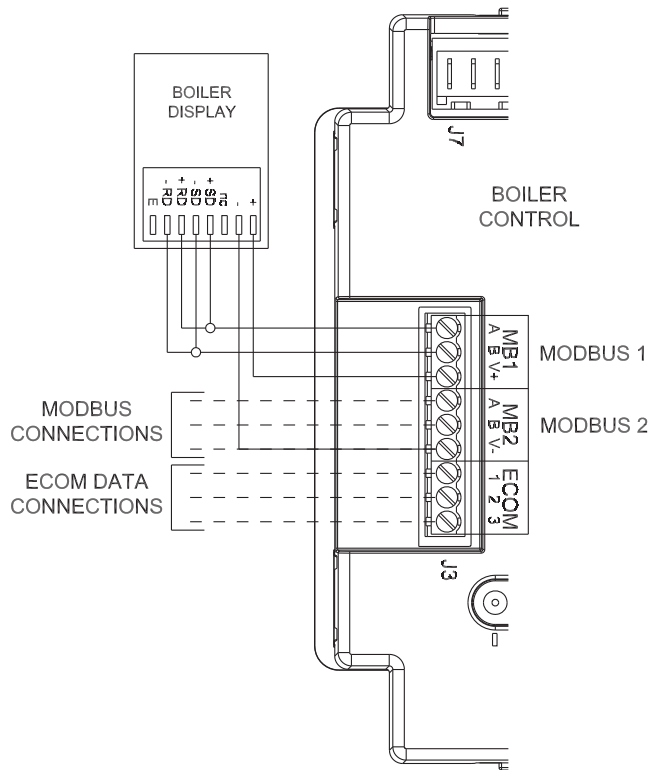

Figure 11.5: J3 Field Wiring
- 3) Data Connections – Modbus and EnviraCOM connections are located in the green control connector shared with the display connections (Figure 11.5). These connections have the following uses: